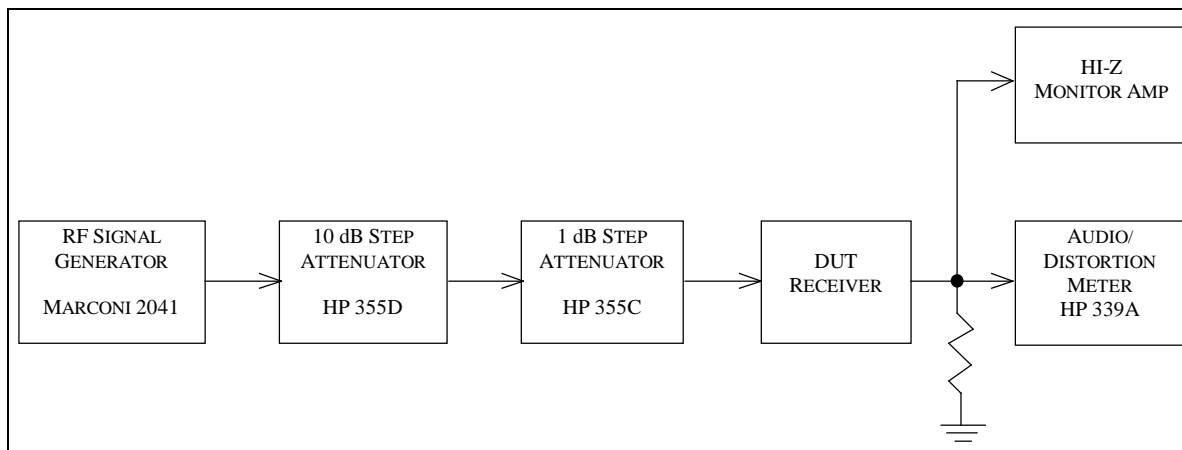

Fig. 5-3 FM SINAD and Quieting Test Hook-Up
5.3.2 Test hook-up (See Fig. 5-3)